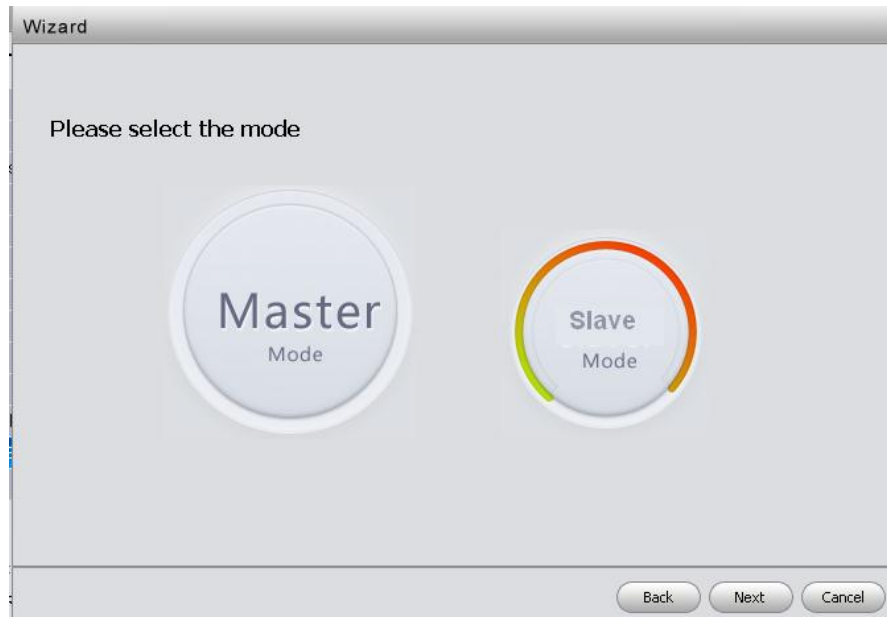

Figure 2-14
- a) Select Slave mode and then click Next button. See Figure 2-14. System pops up disk storage interface.